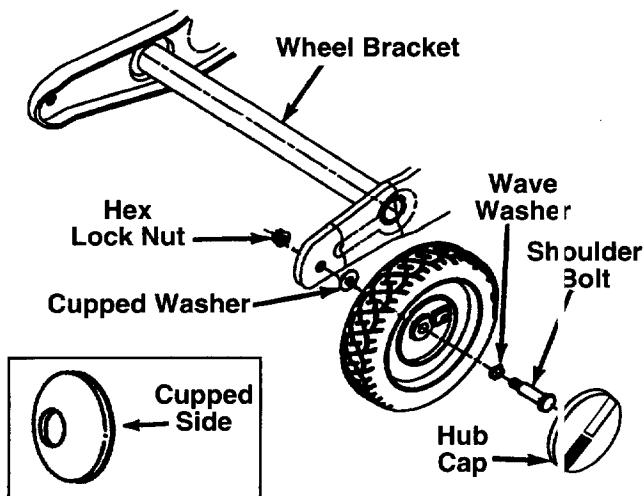

FIGURE 2.
- Remove the hex lock nuts and shoulder bolts from the front of the wheel brackets. See figure 2.
**NOTE:** Cupped side of the washer goes against the chipper chute. See figure 2 inset to find out the cupped side of a washer.